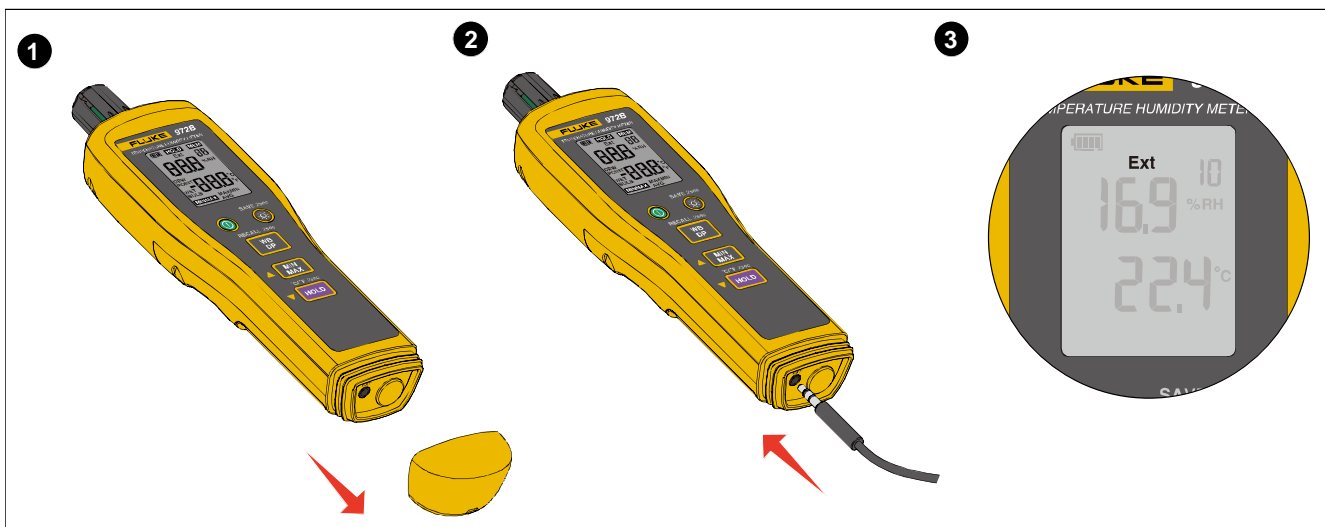

Figure 9. Connect an External Sensor
4. Confirm that the external sensor symbol **Ext** appears on the Meter's screen. See ③ in Figure 9.